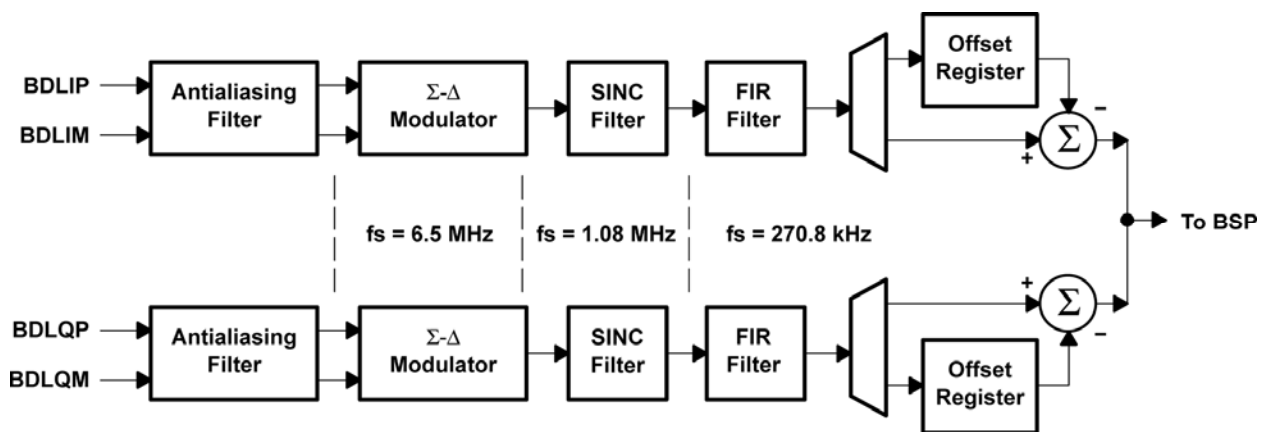

Figure 3: Baseband Downlink Block Diagram
- Figure 3: Baseband Downlink Block Diagram8